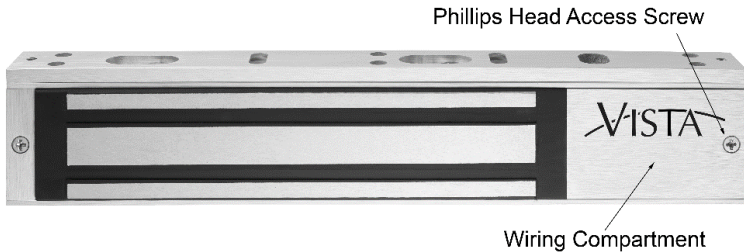

Figure 1. Wiring Compartment
2. **IF** a change is required, **THEN ACCESS** the wiring compartment by removing the wiring compartment Phillips head screw and cover (see Figure 1, “Wiring Compartment”), **AND TOGGLE** the 12V/24V slide switch to the desired position.